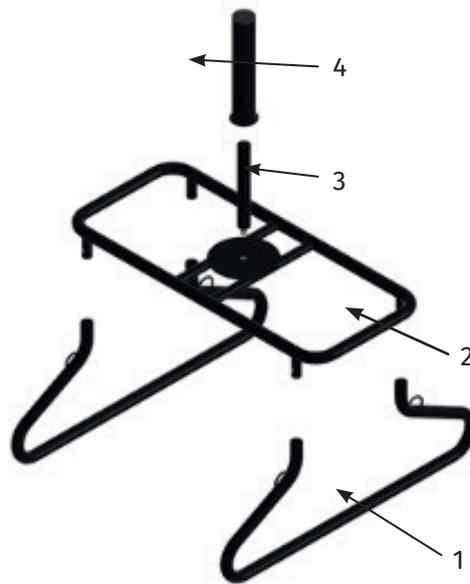

Figure 1: Assembly plan
Attach the runners (1) to the frame (2), as shown in figure 1. The next step is to attach the weight stack pin (3) to the frame (2), as shown in figure 2. You can also place the adapter (4) over the weight stack pin if necessary (depending on the diameter of the hole in your weight plates).